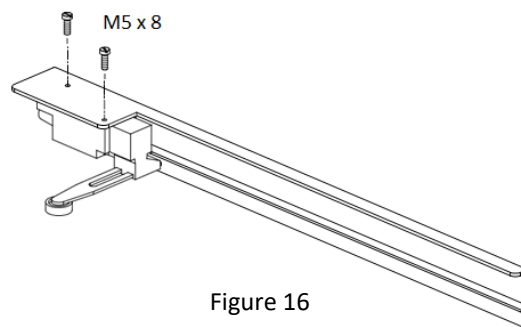

Figure 16
16. Fit top limit switch on the bracket as shown in Figure 16.